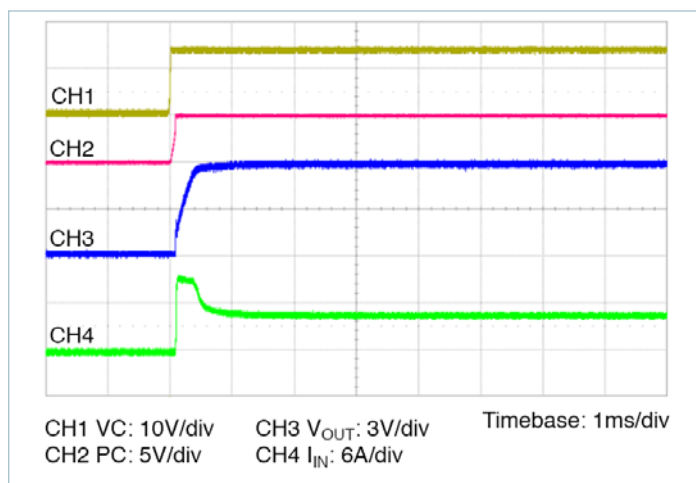

Figure 14 — Start up from application of VC; V_{IN} pre-applied $C_{OUT} = 4000\mu\text{F}$
- **Stand-alone operation (VC applied after V_{IN}):** In this case the VTM output will begin to rise upon the application of the VC voltage (See Figure 14). The Adaptive Soft-Start Circuit may vary the output rate of rise in order to limit the inrush current to its maximum level. When starting into high capacitance or a short, the output current will be limited for a maximum of 1200μs. After this period, the Adaptive Soft-Start Circuit will time out and the VTM module may shut down. No restart will be attempted until VC is re-applied or PC is toggled. The maximum output capacitance is limited to 4000μF in this mode of operation to ensure a successful start.